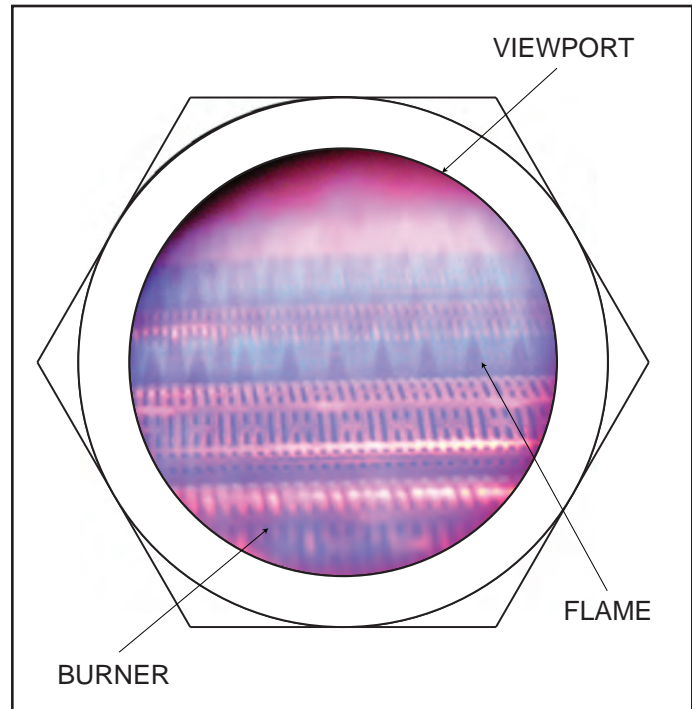

Figure 36. Flame View
12. Make a visual check of the main burner flame. The flame can be seen in a view port on the lower right side of the heater. The flame should be light blue in color and short, see Figure 36. If flame appearance is otherwise, adjustment is necessary as described in the following section.